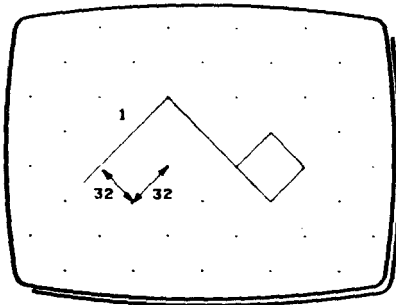

Fig 1
- 2 **Draw a line at random as (1) in Fig 1.**
- 4 **Select N-TAN, the cursor now locks onto two axes. In line with (1) in Fig 1, and at right angles to it.**